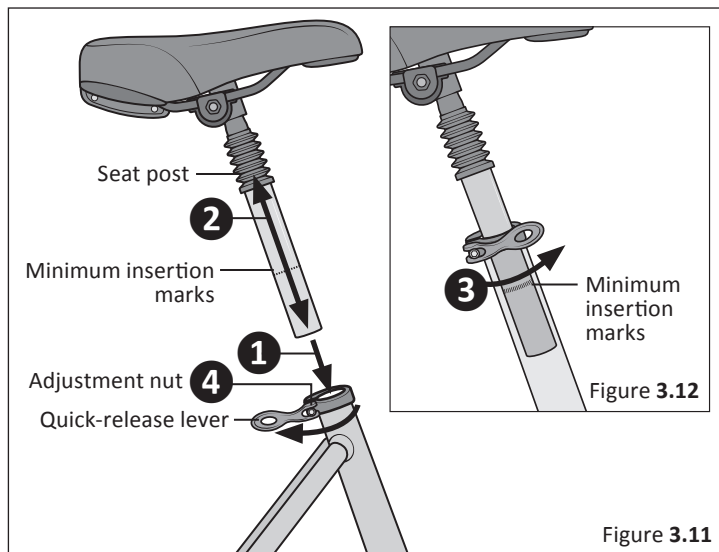

Figure 3.11
- 1 Unlock the quick-release lever and insert the seat post into the seat tube. **Figure 3.11**